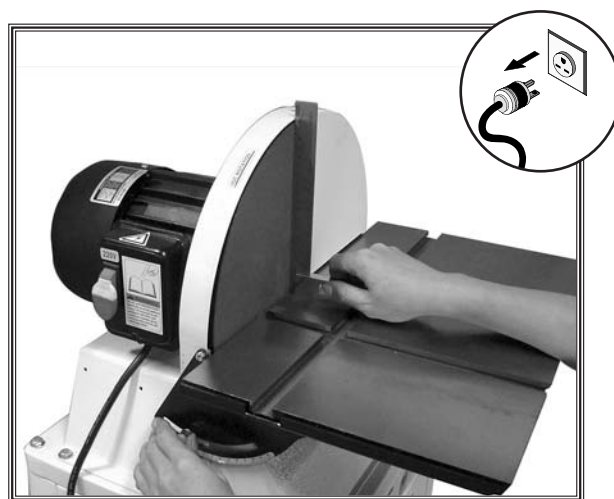

Figure 19. Squaring the table.
2. Using a try square or machinist's square, set one edge on the table surface and the other against the face of the disc, as shown in **Figure 19**.